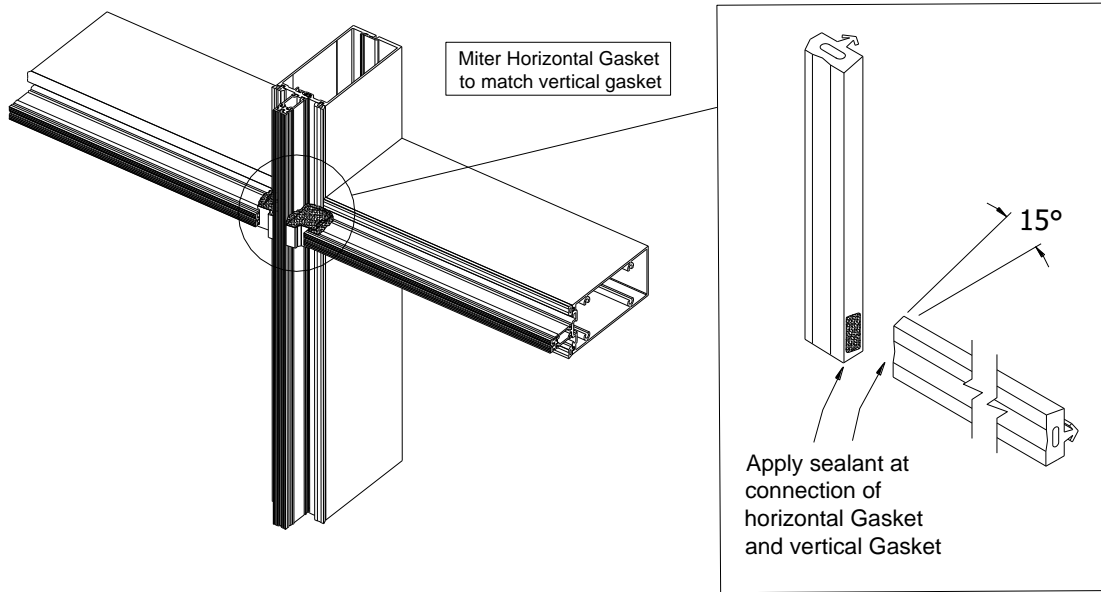

Figure 21: Interior Gaskets Install to Verticals and Horizontals
- 10.2 If not done so already, install interior gaskets, running the vertical gaskets through and abutting the horizontal gaskets with a slight bevel. For SSG mullions install GP-102; for SSG horizontals install GP-106 spacer gasket into inner most reglet. **DO NOT SEAL GASKETS UNTIL JUST PRIOR TO SETTING GLASS. See FIGURE 21.**